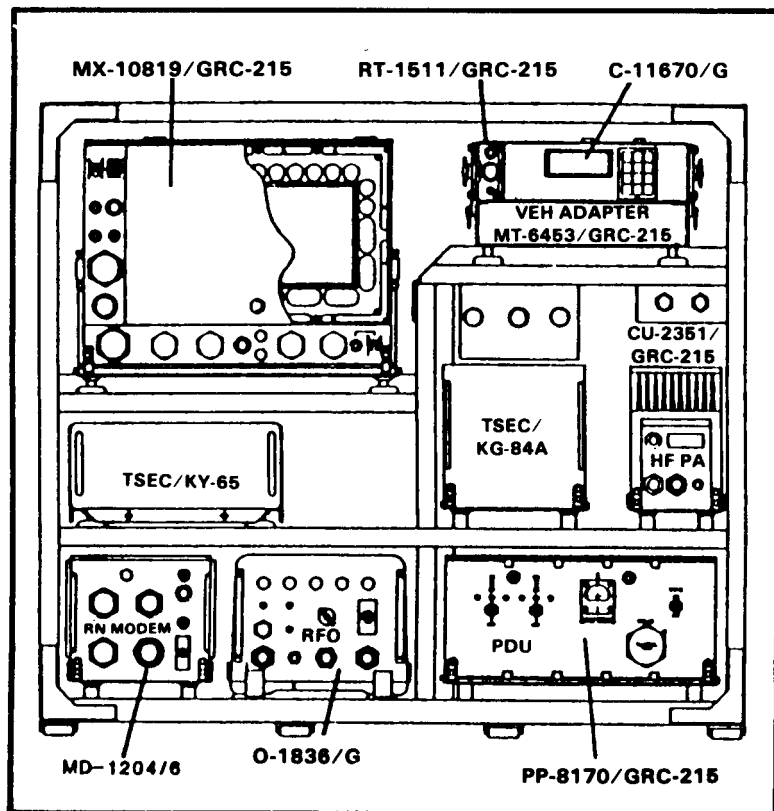

Figure 1-24. AN/GRC-215 team terminal.
a. The Regency Net System provides survivable HF radio command, control, and communications which pass messages accurately and rapidly for US Commander-in-Chief, Europe and Pacific and internal unit communications within their major subordinate commands. The Regency Net System includes the force terminal which is a multichannel terminal housed in a S-280 shelter and a team terminal which is a single-channel terminal mounted in a ¼-ton vehicle. For the purpose of this manual, only team terminal (Figures 1-24 through 1-26) will be discussed.